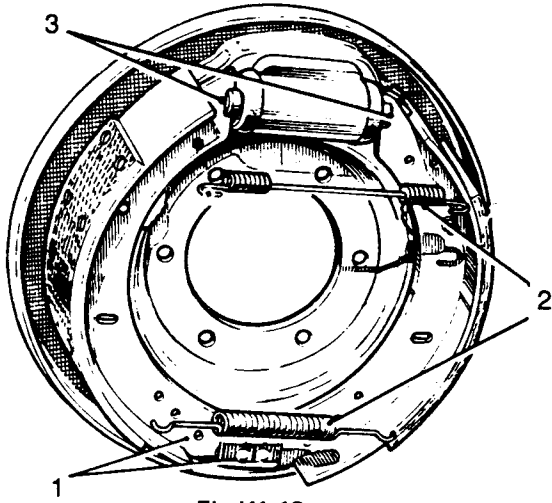

Fig K1.18
- (2) Refer to Fig K1.18. Release the brake shoes by levering the shoes away from the pivot (1).
- (3) Disconnect the springs (2).
- (4) Retain the pistons (3) in the wheel cylinder using a rubber band.
- (5) If required, reline the brake shoes (see Sub-sub-section K1.5, Chapter 3).